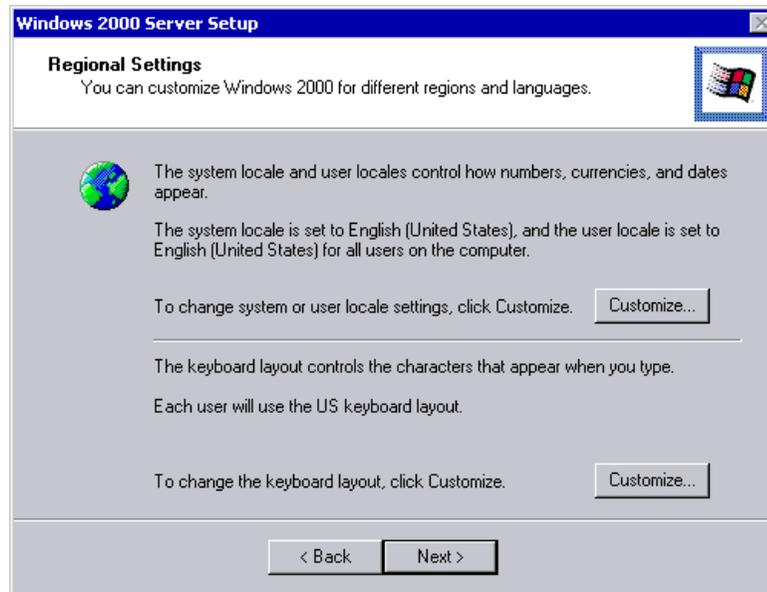

Figure 53. Regional Settings
9. Figure 53 appears prompting you for regional settings: